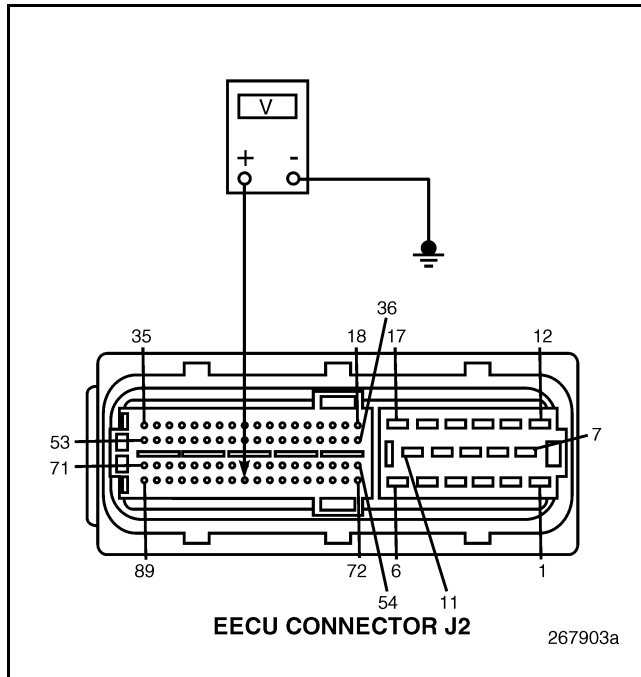

Figure 62
5. Measure the voltage from EECU harness connector J2 pin 81 to a good ground (see Figure 62).